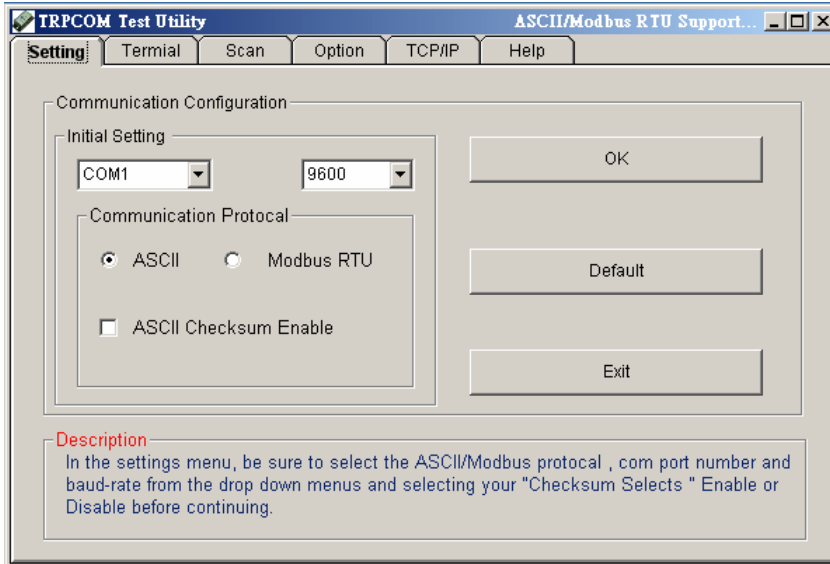

Figure 1
1.The “Setting ” function is for user to initiate the software to set the Com Port from 1 to 8 and setting the Baud-Rate from 1200 to 19200,Checksum Enable or Disable. See Figure 1